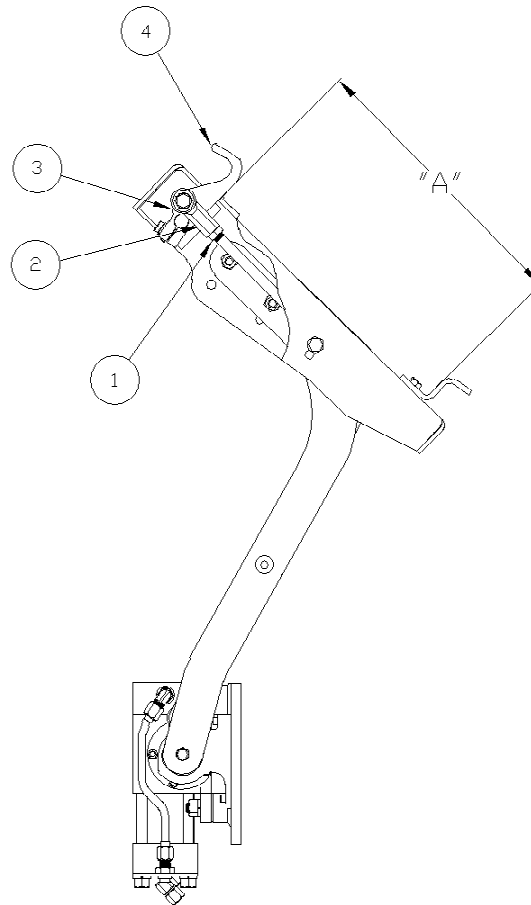

Figure O-2
Check the distance (**A**) (figure O-2) between the saddle and lower hooks when the lifter faceplate is in the **FULL DUMP** position. Maintain this dimension at approximately **14 1/4"** for the proper "locking" of the cart to the lifter. To adjust the setting, loosen the jam nuts (1) on the spherical rod ends (2). Remove the bolts (3) that hold the rod ends to the lower hooks (4). Screw the rod ends in or out as required to obtain the correct dimension at (A). Replace the bolts (3) and tighten the jam nuts (1).